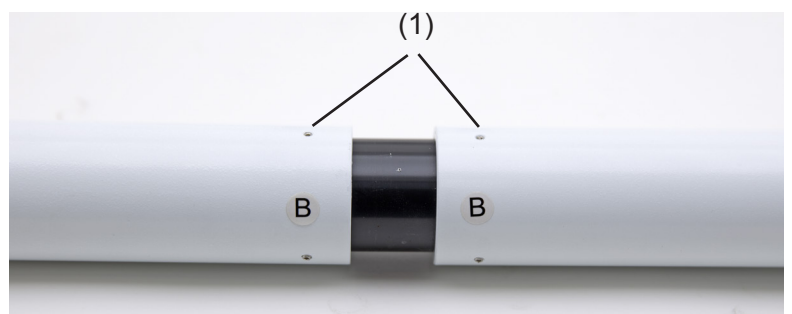

Fig. 6
2.6 Insert the second part of the extension tube (Fig. 6).
2.7 Fully insert the second extension tube in the right position. Using the provided Allen wrench (small one) lock the fixing screws (1) to block the extension tube (Fig. 6).